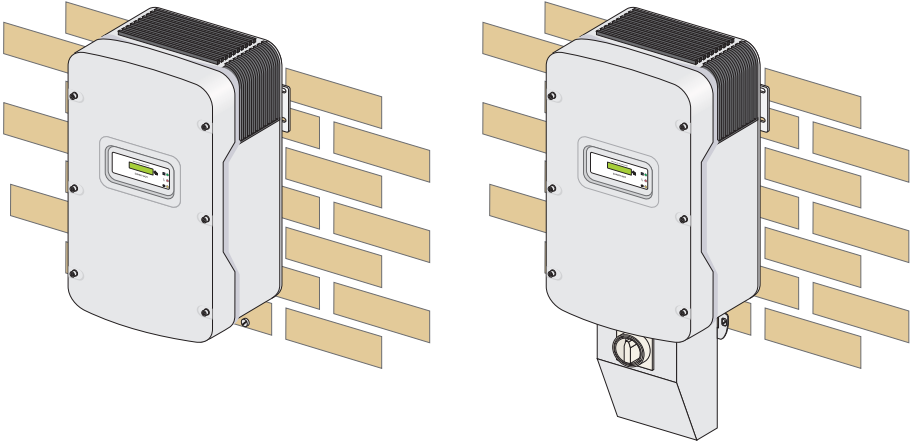

Figure 4-10: Mounted Sunny Boy with and without SMA DC-Disconnect
6. When the Sunny Boy has been mounted correctly it should look like one of the examples in Figure 4-10.